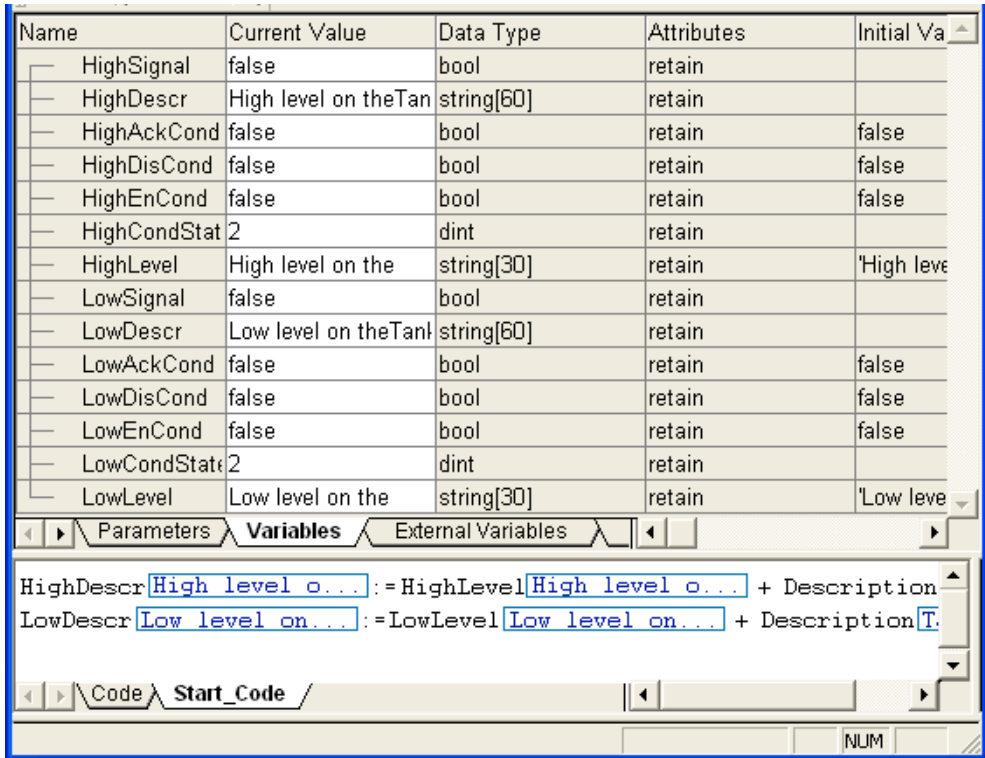

Figure 132. Part of Online editor for Tank11.
- Under Applications, alarmsimple_m, and Control Modules, double-click Tank11 or Tank12. The corresponding online editor is displayed (Figure 132).